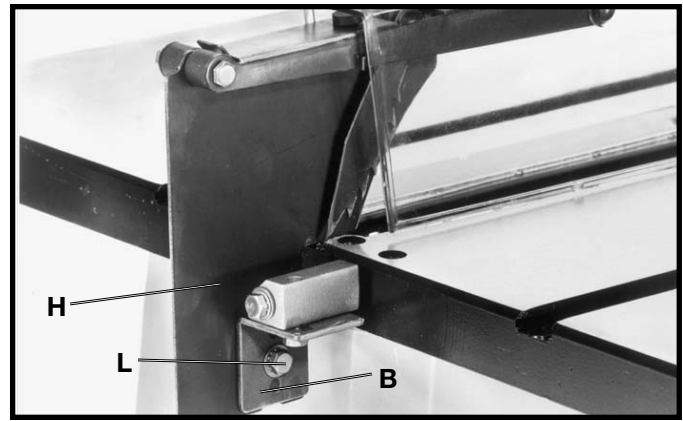
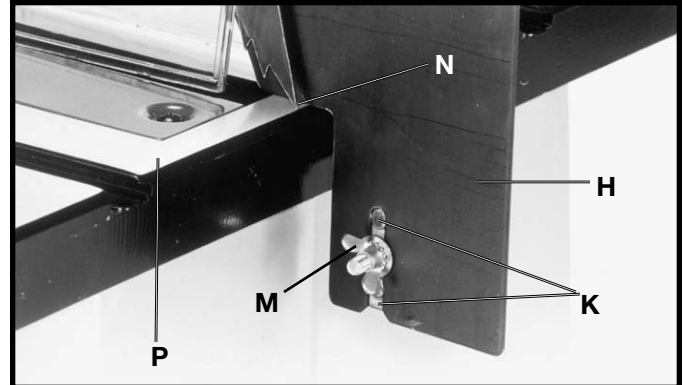

Fig. 14
Fig. 15
8. Assemble splitter (H) Fig. 14, to splitter support bracket (B) as shown using M6 x 20mm hex head screw (L), 1/4" external tooth washer, and 1/4" flat washer.
9. Fasten splitter (H) Fig. 15, to splitter support bracket using 1/4" flat washer, 1/4" external tooth lockwasher and M6 wing nut (M). **NOTE:** Before tightening wing nut (M) make certain there is at least a 1/8" gap between the bottom edge of splitter (N) and top surface of table (P) and that protrusion "pins" (K) Fig. 14, are inside the slot of splitter assembly (H).